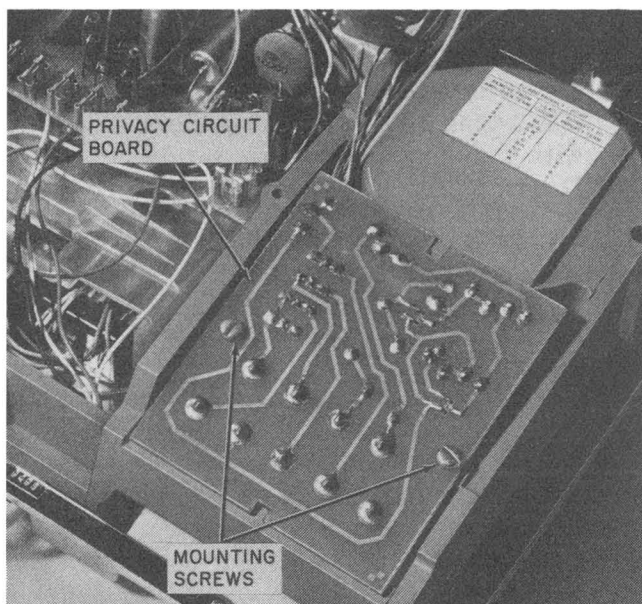

Fig. 14—Mounting Privacy Circuit
- (3) Mount privacy circuit board on the two bosses located under the front handset pocket with component side of board facing into the upper housing (Fig. 14).